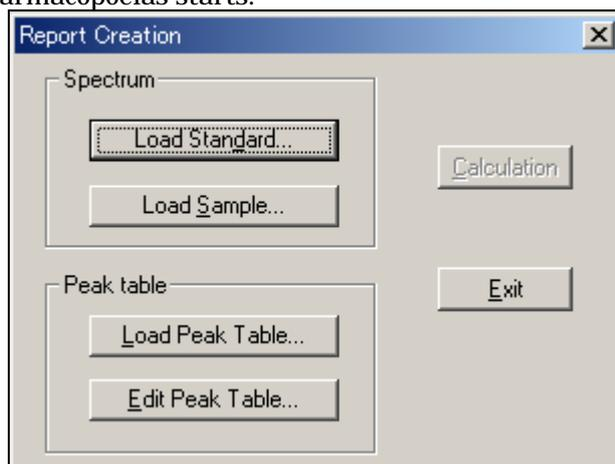

Figure 3-2. "Report creating function" screen
6. Then, click < Report > to open the dialog box in Figure 3-2, and the Report creating function for Pharmacopoeias starts.
3. Clicking the <Open > button returns to the dialog box in Figure 3-2.
The peak table file can be created by clicking < Load Peak Table > button in Figure 3-2, or edited by clicking < Edit Peak Table > button.
The peak table file which has already been made can be loaded by clicking <Load Peak Table> button in Figure 3-2.
3. Select a Peak table file and then, click the <Open> button to return to the dialog box in Figure 3-2.
The peak table file can be created or edited by clicking < Edit Peak Table > button in Figure 3-2.
5. Clicking the <Save> button returns to the dialog box in Figure 3-2.